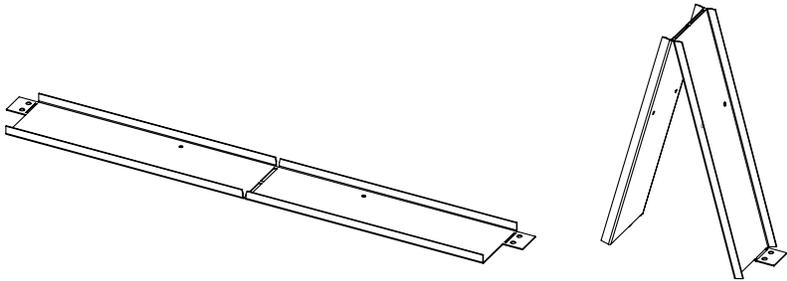

Figure 30: Top Standoff Shape
1. Bend top standoff by hand to form general shape (see Figure 30).